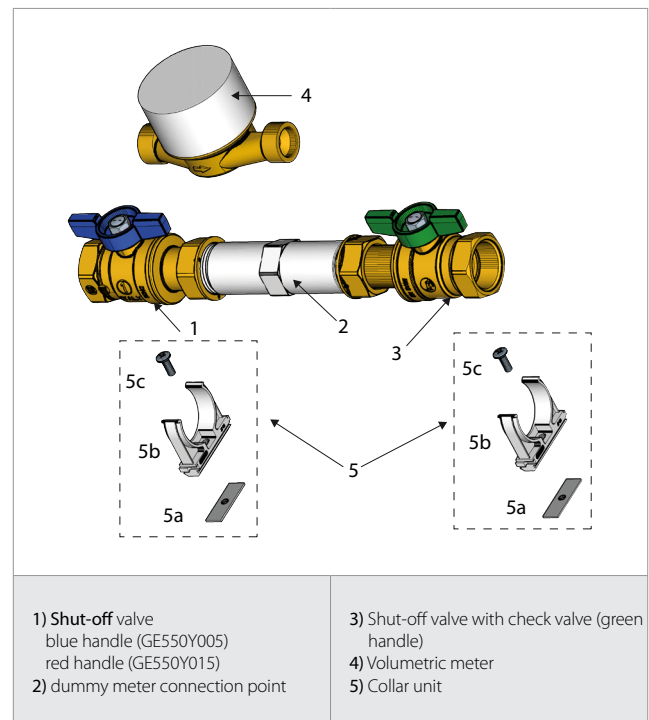

Figure 6 – Components included
The components described in figure 6 are contained within the packaging. The two shut-off valves (1 - 3) are connected to the connection point (2) and the sealed using appropriate devices.